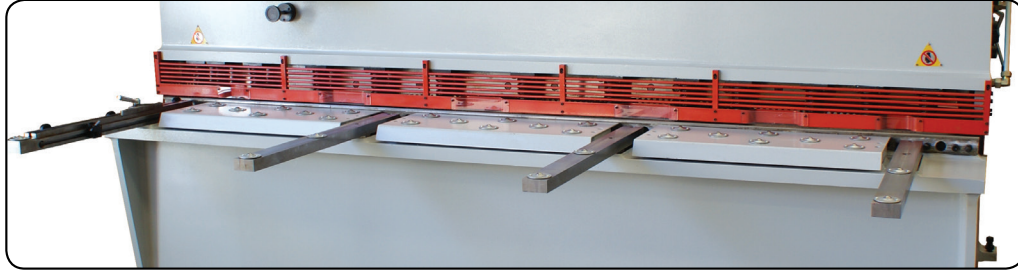

Fig. 3.4
- Bolt the support arms onto the feed table. Ensure they are level and square to the table. (Fig 3.4)